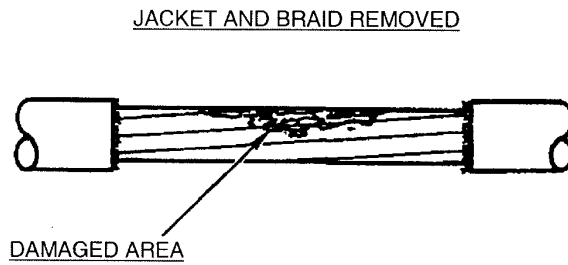

Figure 8. Damaged Multiconductor Wire
-5	2	18-16	-2	(2)	-5
-6	2	14	-3	(2)	-6
-7	2	12	-3	(2)	-7
-8	3 OR 4	26-24	-1	(4)	-4
-9	3 OR 4	22-20	-1	(4)	-5
-10	3 OR 4	18-16	-2	(4)	-6
-11	3 OR 4	14-12	-3	(4)	-7
f. Use small scissors or diagonal cutter to remove shield. Do not damage wires (Figure 8).